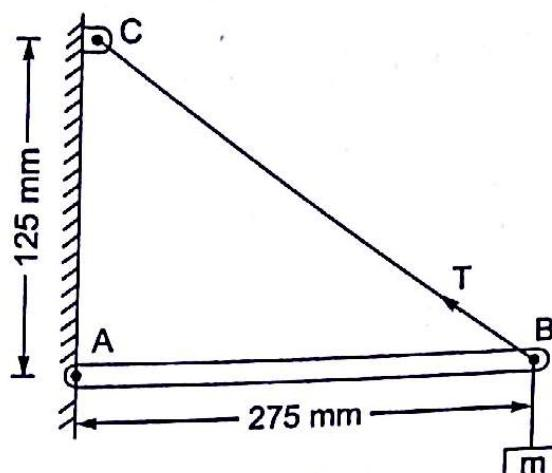

Fig. 3.70
- 3.17 A mass of 35 kg is suspended from a weightless bar AB which is supported by a cable CB and a pin at A as shown in Fig. 3.70. Pin reactions at A on the bar AB are